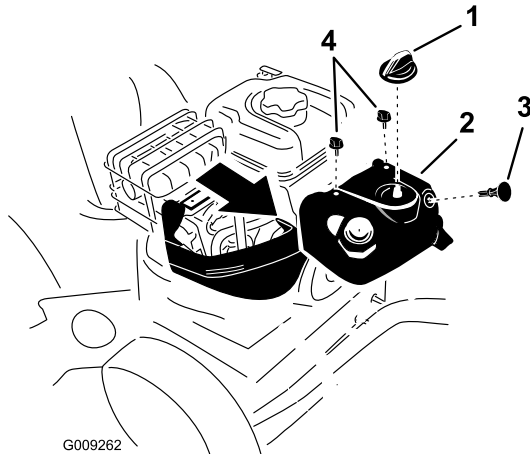

Figure 36
Note: To access the spark plug, you must first remove the upper snow hood (Figure 36).
1. Remove the choke knob and the ignition key (Figure 36).
2. Remove the 2 screws that secure the upper snow hood to the machine (Figure 36).